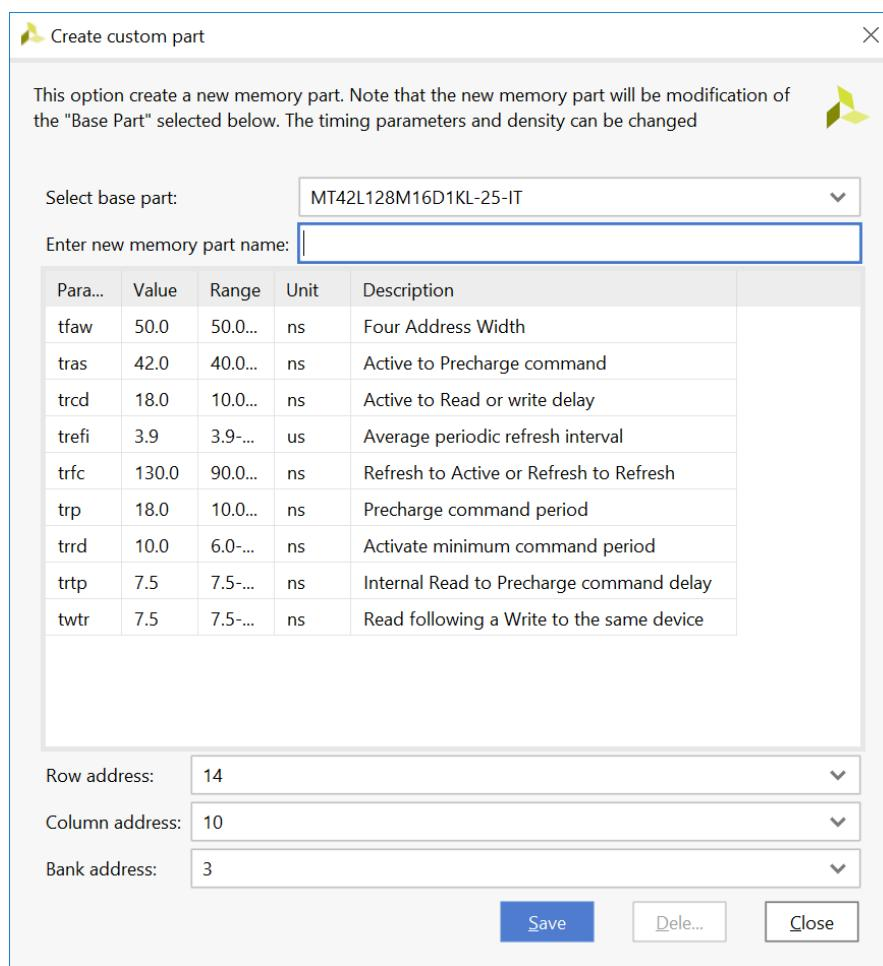

Figure 4-19: Create Custom Part
2. Select the appropriate memory part from the list. If the required part or its equivalent is unavailable, a new memory part can be created. To create a custom part, click **Create Custom Part** below the **Memory Part** pull-down menu. A new page appears, as shown in Figure 4-19.